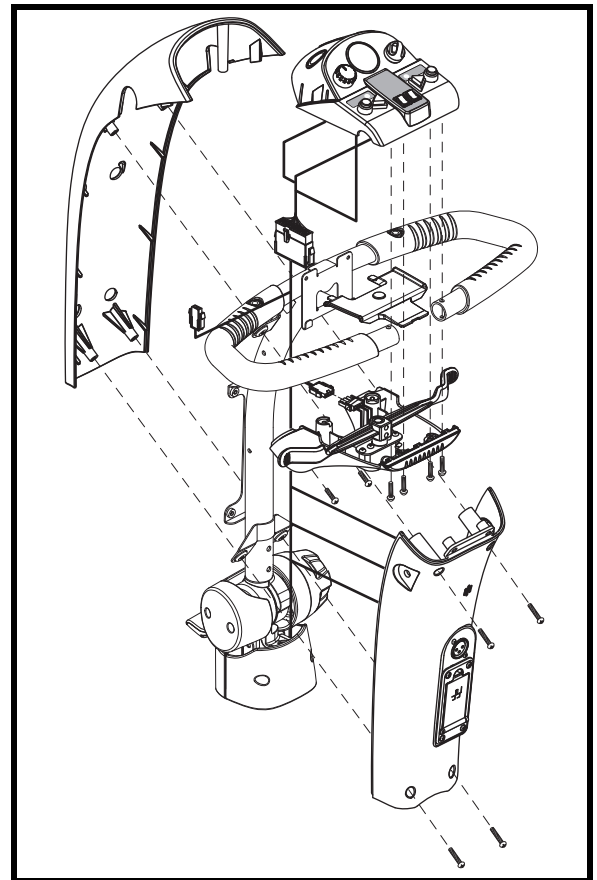

Figure 16. Tiller Shroud and Console Assembly Removal
18. Remove the front and rear tiller shrouds and the console assembly. **See figure 16.**
- *If your multimeter indicates an open*, then replace the tiller harness (10) and retest the system.
- *If your multimeter indicates less than 1 ohm*, then replace the off-board charger harness (12) and retest the system.
15. Remove the front and rear tiller shrouds and the console assembly. **See figure 16.**
1. Press the throttle control lever forward and backward to check the throttle pot (15) spring tension. The throttle control lever should be easy to press and spring back to the neutral position when released.
- *If the throttle control level feels like it is obstructed or does not spring back to the neutral position when released, then replace the throttle pot (15) and retest the system.*
2. Remove the front and rear tiller shrouds and the console assembly. **See figure 16.**